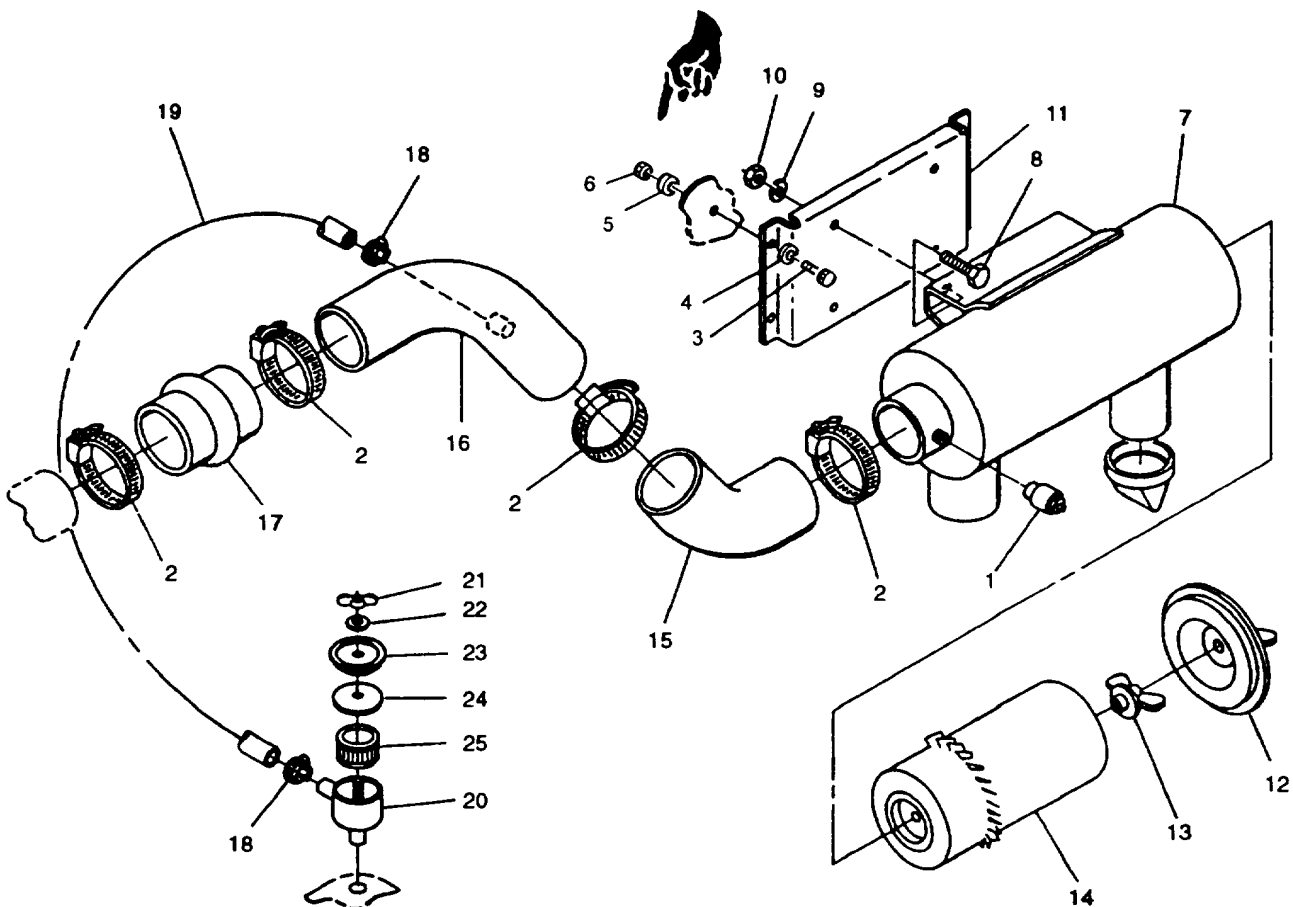

FIGURE 2-21. Air Cleaner Assembly
- c. Inspect air restriction indicator (1, FIGURE 2-21) for cracks, stripped threads, or other obvious damage.
- c. Unscrew air restriction indicator (1, FIGURE 2-21) from air cleaner housing (7).
- a. Install air restriction indicator (1, FIGURE 2-21) on air cleaner housing (7). Tighten hand tight only.
- d. Inspect air cleaner assembly and mounting bracket for cracks, dents, and other damage (FIGURE 2-21).
- d. Loosen clamp (2, FIGURE 2-21) and remove hose (15) from air cleaner housing (7).
- e. Remove bolts (3), washers (4), lockwashers (5), nuts (6), mounting bracket (11), and air cleaner assembly from generator set.
- f. Remove bolts (8), nuts (10), lockwashers (9), and mounting bracket (11) from air cleaner assembly.
- a. Install mounting bracket (11, FIGURE 2-21) on air cleaner assembly with bolts (8), lockwashers (9), and nuts (10).
- b. Install aircleaner assembly and mounting bracket (11) on generator set with bolts (3), washers (4), lockwashers (5), and nuts (6).
- c. Install hose (15) and clamp (2) on air cleaner housing (7). Tighten clamp (2).
- c. Loosen wing nut caged to cover (12, FIGURE 2-21) and remove cover (12) from air cleaner housing (7).
- d. Remove wing nut (13) and filter element (14) from air cleaner housing (7).
- c. Inspect element (14, FIGURE 2-21) for debris and damage, replace as necessary.
- d. Wipe inside of air cleaner housing (7) with clean cloth (Item 8, Appendix C).
- a. Install filter element (14, FIGURE 2-21) in air cleaner housing (7) and tighten wing nut (13).
- b. Install cover (12) on air cleaner housing (7), tighten caged wing nut.
- f. Remove wing nut (21, FIGURE 2-21), washer (22), cover (23), rubber seal (24), and element (25) from breather (20).
- j. Install element (25), rubber seal (24), cover (23), washer (22), and wing nut (21) on breather (20).
- c. Loosen dampers (2 and 18, FIGURE 2-21).
- d. Remove hose (15) from air cleaner housing (7) and tube (16).
- e. Remove tube (16) from breather hose (19) and hump hose (17).
- f. Remove hump hose (17) from turbocharger.
- g. Remove breather hose (19) from breather (20).
- h. Remove breather (20) from valve cover.
- i. Remove wing nut (21), washer (22), rover (23), rubber seal (24), and element (25) from breather (20).
- a. Install element (25, FIGURE 2-21), rubber seal (24), cover (23), washer (22), and wing nut (21) on breather (20).
- b. Install breather (20) in valve cover.
- c. Install hose (19) and clamp (18) on breather (20).
- d. Install hump hose (17) and damp (2) on turbocharger.
- e. Install tube (16) and damp (2) on hump hose (17).